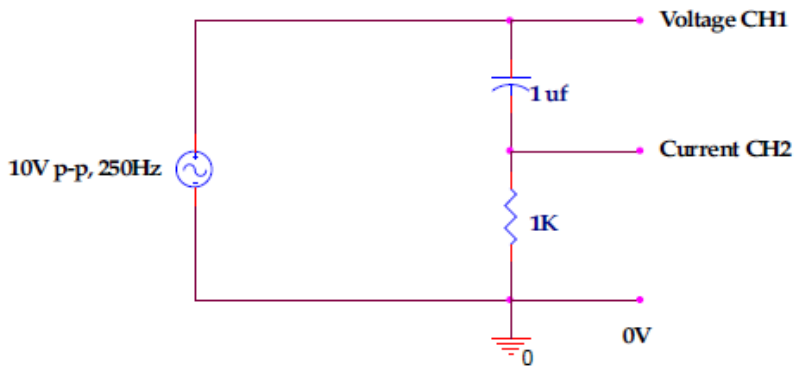

Figure 3
7. Connect the circuit as shown in Figure 3.
10. Zero both traces and then observe the two waveforms on the OSC. Carefully draw the two waveforms, showing their positions with respect to each other, and the value of voltage and current. Find the phase shift between the current and the voltage in the circuit in Figure 3.